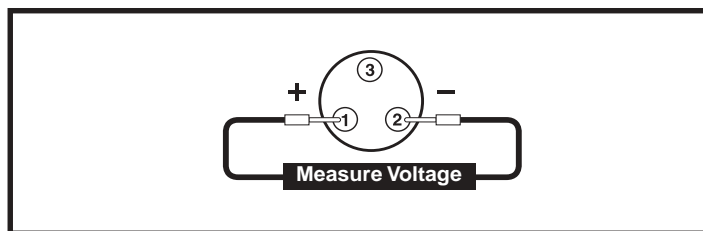

Figure 17. Connector 1a
1. Measure voltage across pin 1 (B+) and pin 2 (B-) of the off-board charger socket (connector 1a). See **diagram 2** and **figure 17**.